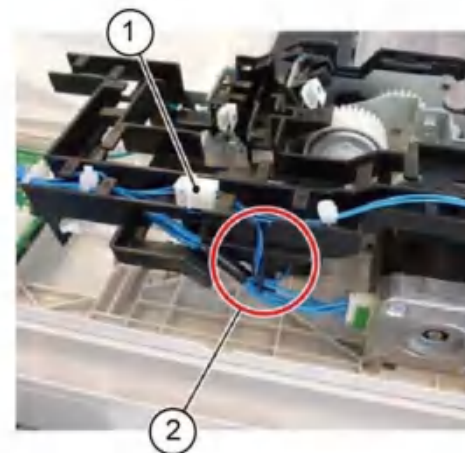

Figure 4 DADF feed clutch harness
7. Disconnect the DADF feed clutch, **Figure 4**:
- a. Disconnect the connector (1).
- b. Remove the harness from the harness guide (2).